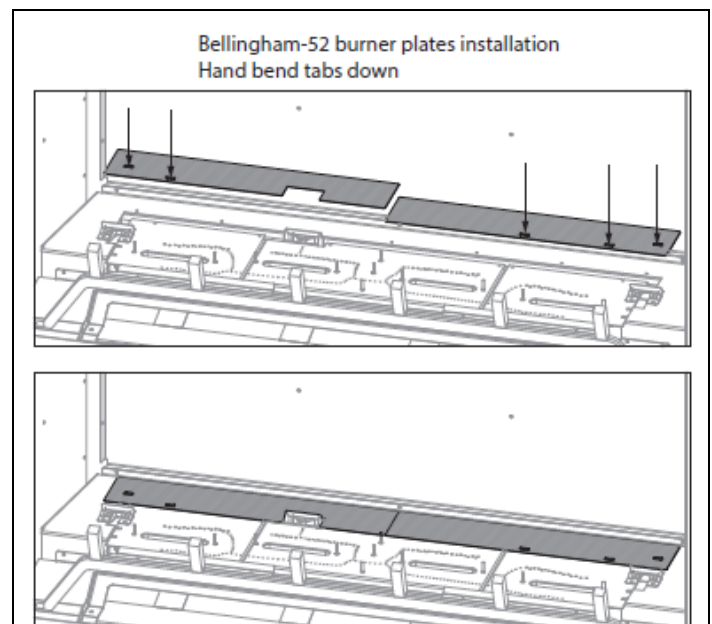

Figure 1.3 - #BHM-52 Burner Plates Installation
2. Position the burner plates at the back of the firebox, as shown in Figure 1.3.